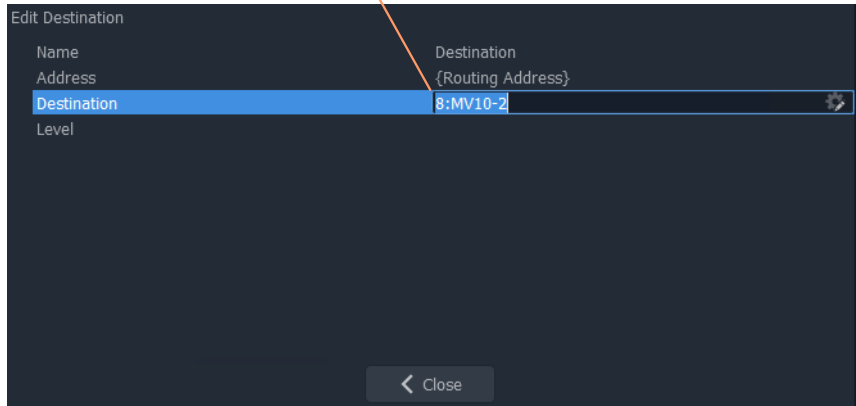

Fig. 6-56: Setting Destination for a Label's Destination Behaviour
- 6 Double-click on the **Destination** Behaviour and set its 'Destination' property to the same destination that each of the **Buttons** control. See Figure 6-56.